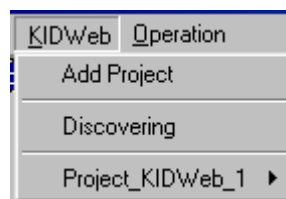

Fig. 4.5
- Click on KIDWeb menu – the Drop-down list appears as shown in Fig. 4.5.